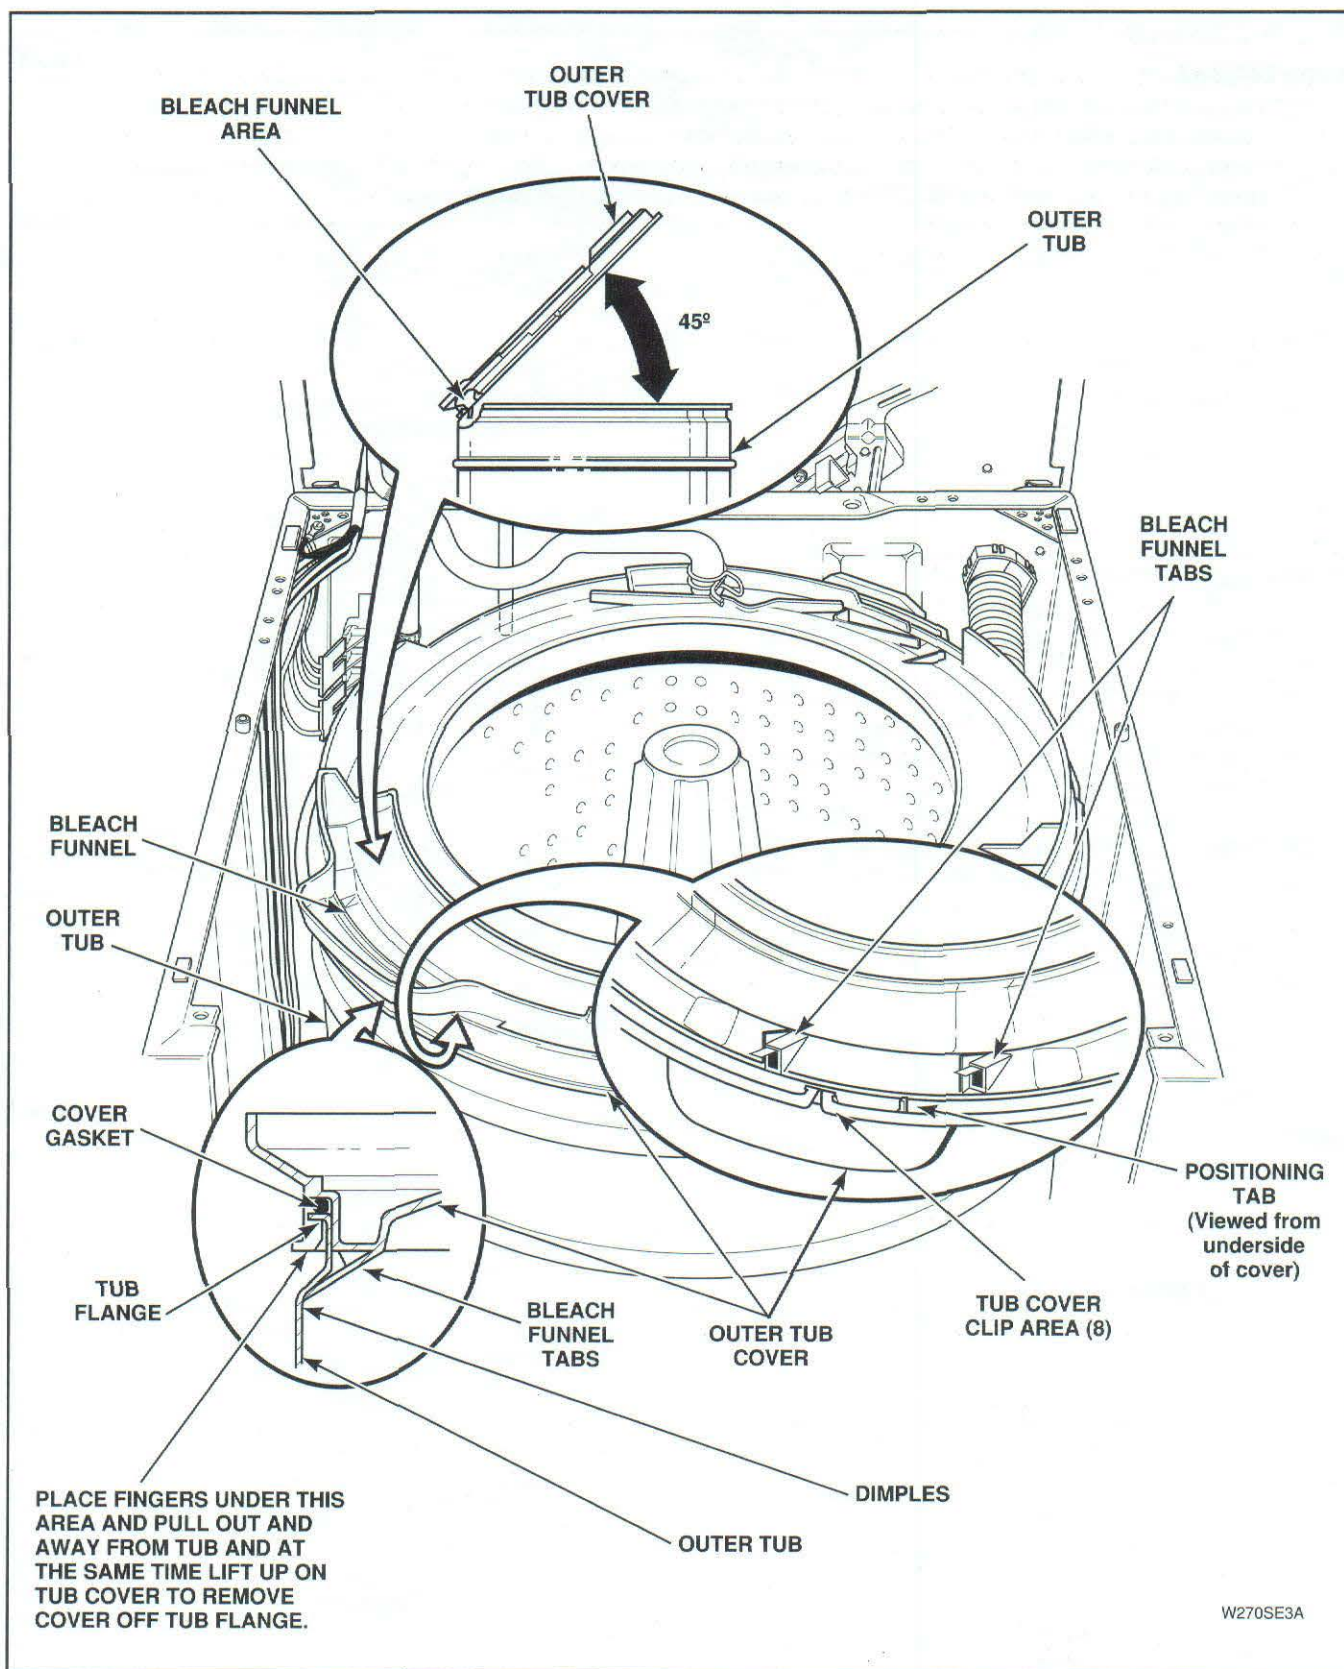

Figure 39
- k. With tub cover tilted at approximately a 45 degree angle, insert the positioning pin into notch on outer tub flange, *Figure 39*.
6. With tub cover tilted at approximately a 45 degree angle, insert the positioning pin into notch on outer tub flange, *Figure 39*